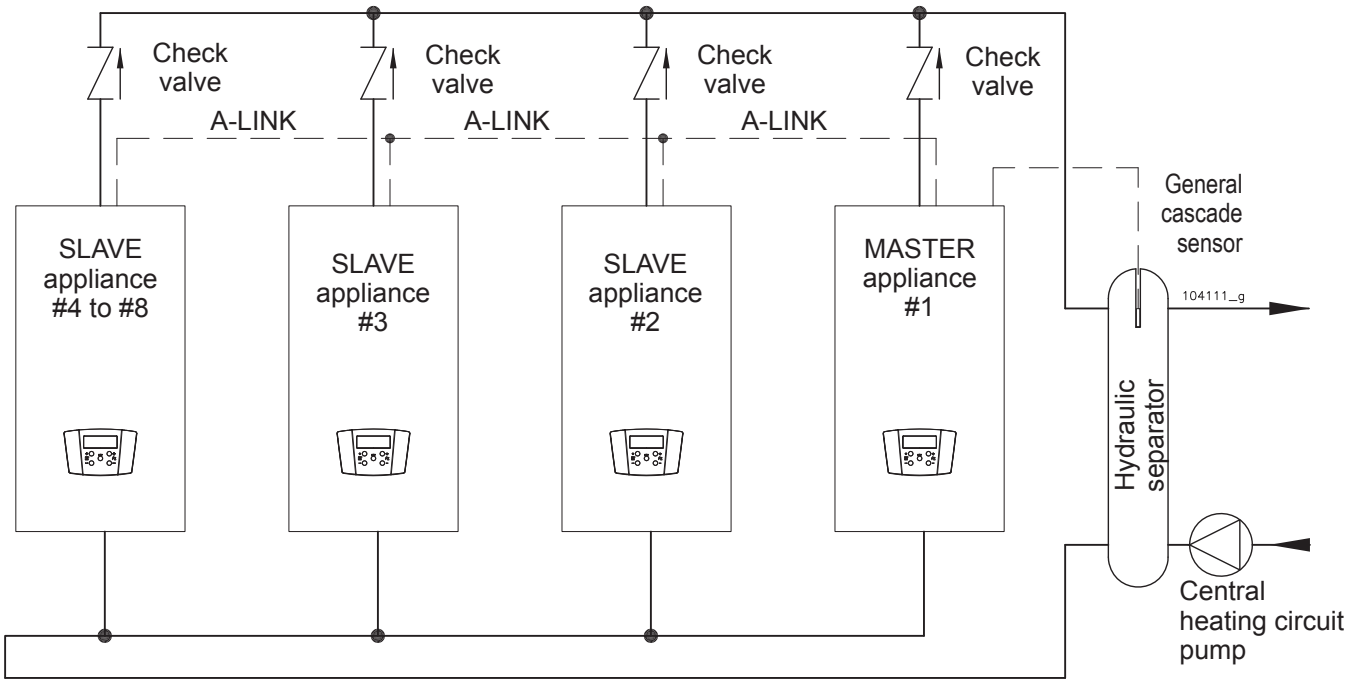

Figure 5-12 – Concept diagram: connecting appliances in a cascade
This appliance can be connected in a cascade including up to a maximum of 8 devices. The hydraulic connection diagram is shown in figure 5-12. Other types of hydraulic connections can be performed (ask the manufacturer for the reference diagrams). The cascade is managed by the motherboard in the device that will be defined here and then referred to as the "Master". To connect the appliances in a cascade, proceed as follows:
- 1 - Set up the hydraulic installation as shown in figure 5-12;